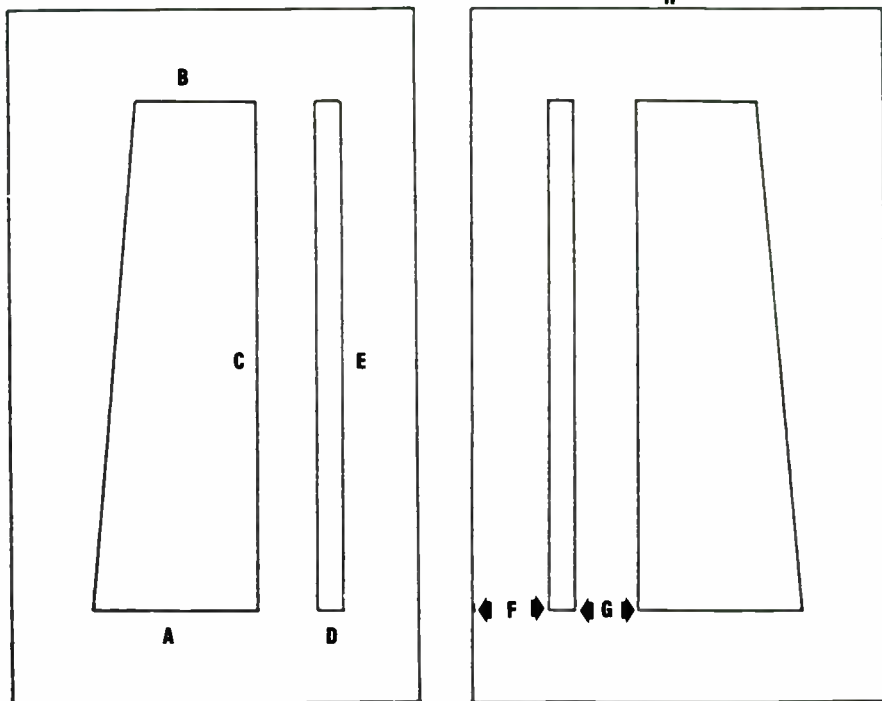

FIGURE 1: Cutout guide for chipboard. a = 30cm; b = 22cm; c = 95cm; d = 4.5cm; e = 95cm; f = 14.5cm; g = 11.5cm; h = 75cm; i = 130cm
**BUILDING THE SPEAKERS. Step 1.** Cut the chipboard (Fig. 1). Each must be a mirror image. I chose the dimensions more or less arbitrarily. You might want to add 5 to 10cm to the woofer to get a bigger surface. If you want a bigger (maybe much bigger) speaker, roughly use the same dimension ratio, a:b:c = 4:3:13.